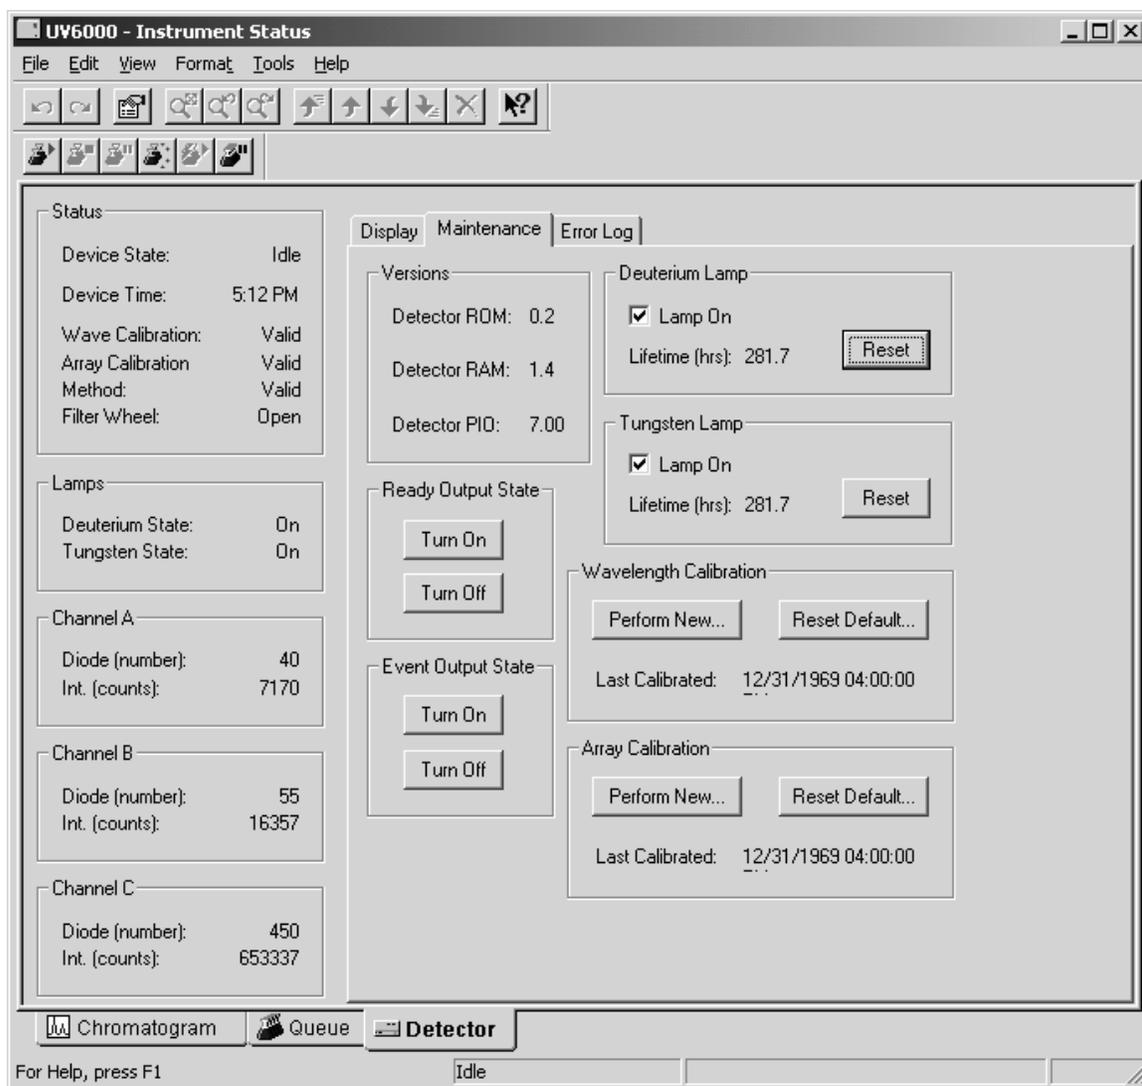

Figure 4.5 UV6000 Instrument Status – Maintenance page
1. Open the Maintenance page for the UV6000 detector (see Figure 4.5):
As lamps age, there is a reduction in light output that results in increased baseline noise. If the noise level on your detector's output signal is increasing and cleaning the flowcell doesn't help, determine the condition of the lamps. Check the light intensities from the Instrument Status section of the software. If a large decrease in light intensity is observed, adjust the attenuators to increase light throughput (refer to **Adjusting Attenuators** on page 4-16). If light intensities are still unacceptable, use the following procedure to change the appropriate lamp. Lamps are pre-aligned. The deuterium (D2) and tungsten - halogen (W) lamps are located in the lamp compartment to the right of the optical bench assembly, (viewed with the detector chassis open as shown in Figure 4.5).